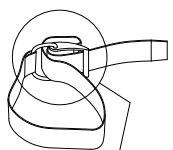
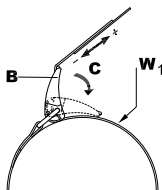

Fig 2-4
Fig 2-6
1. Rotate the buckle until it snaps into the open position. Slide the strap around the plastic buckle as shown in the figure (Fig. 2-4), wet the strap before clamping it in place on the tank, and adjust the length (Fig. 2-6).
3. Close the buckle (C) (Fig. 2 – 6). If the strap is too tight or too loose, open the buckle to readjust the strap length (Fig. 2-6) and fasten the strap (Fig. 2-5 and 2-6) of the quick-release belt (W1) around the tank back again.